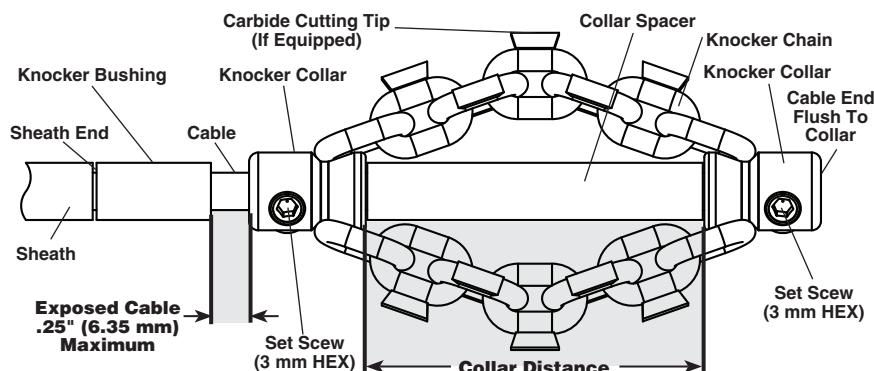

Figure 10 – Chain Knocker Installation/Adjustment
2. *Figure 10* shows a schematic of proper chain knocker installation and adjustment. There are two key points when installing/adjusting chain knockers.
6. Test fit the chain knocker, knocker bushing and collar spacer on the cable as shown in *Figure 10*. Chains should be straight – do not assemble with chains twisted. To prevent excessive cable end wear, cable end should be flush with the end of the collar.
7. With the chain knocker correctly installed on the cable as shown in *Figure 10*, use the supplied hex wrench to securely tighten the collar set screws. Place set screw tip against cable, then tighten an ad-